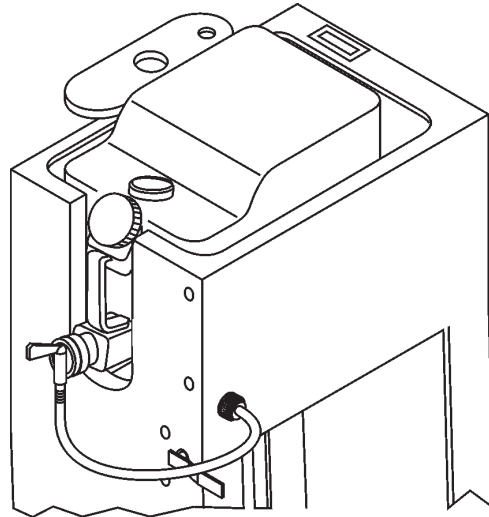

Figure 18. On-board Water Tank Hose Connection
The SP2 CE Saw is equipped with a removable 19-liter (5-gallon) on-board water tank fitted in the top of the console which can be connected to the brass hose fitting on the rear of the operators console (Figure 18).
4. Ensure the water tank is filled to capacity (19 liters/5 gallons). Connect the water tank hose to the water system brass fitting on the rear of the console (Figure 18) and test for adequate water flow to the diamond blade before operation. When ready to start cutting, turn the water on.